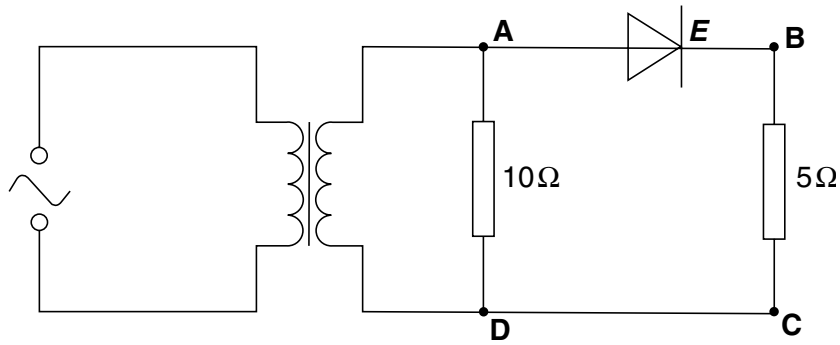

Fig. 4.1
4 A cathode-ray oscilloscope (c.r.o.) is used to investigate the circuit of Fig. 4.1.
- (b) (i) Name the component labelled **E** in Fig. 4.1.